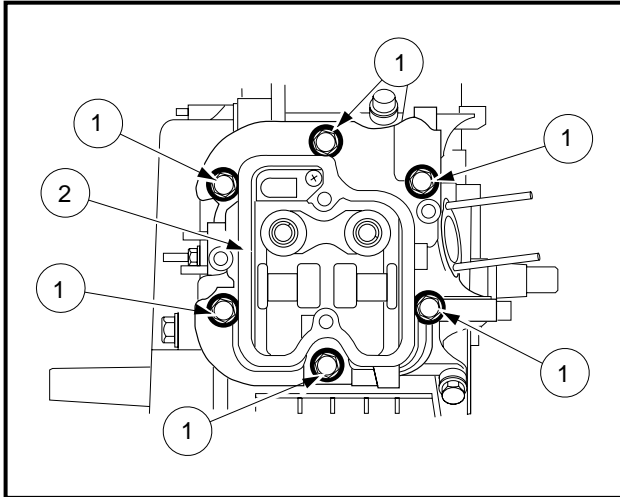

Figure 13-12 Remove Cylinder Head
1. Remove the six bolts (1) and take off the cylinder head assembly (2) (**Figure 13-12, Page 13-11**).